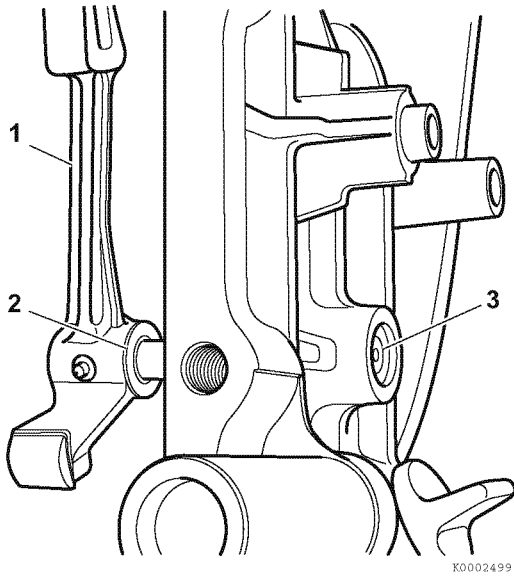

Figure 6-82
5. Remove the throttle shaft and governor arm assembly (1, **Figure 6-82**) along with the washer (2, **Figure 6-82**).
6. Carefully pry the seal (3, **Figure 6-82**) out of the bore.